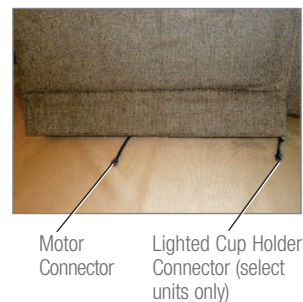

FIGURE 10
- Connect the power supply to the motor connector (FIGURE 10).